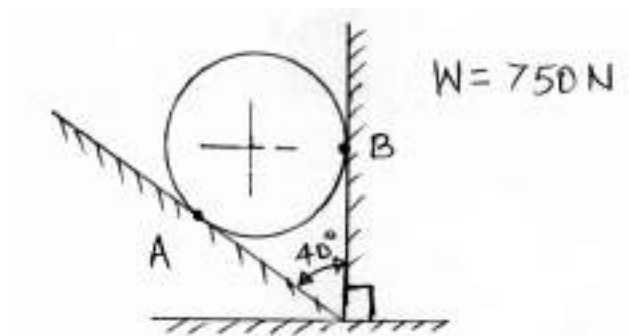

Fig. No. 3.
- b) A sphere of weight 750N is placed between two surface as shown in Fig. No. 3. Calculate contact reactions offered by the surfaces.